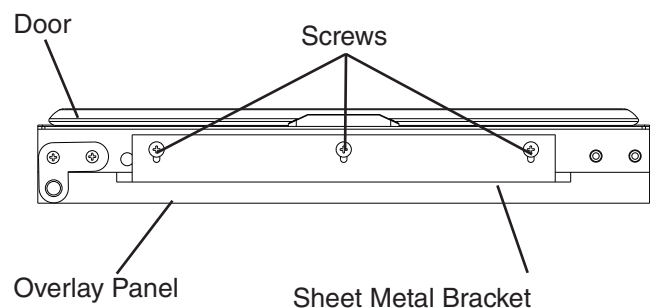

**Fig. 16**
- 4) Remove the overlay panel from the door and tighten the two M4x8 truss head screws securing the sheet metal bracket to the overlay panel. See Fig. 16.